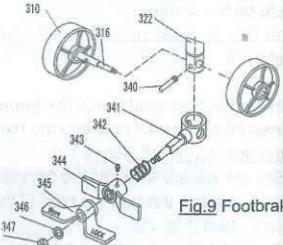

Fig.9 Footbrake
To apply the brake step on the "LOCK" side of the pedal (Fig. 9, pos.345) until its angle is 45°. To release the brake step on the "MOVE" side of the pedal (Fig. 9, pos.345) until it is in horizontal position.